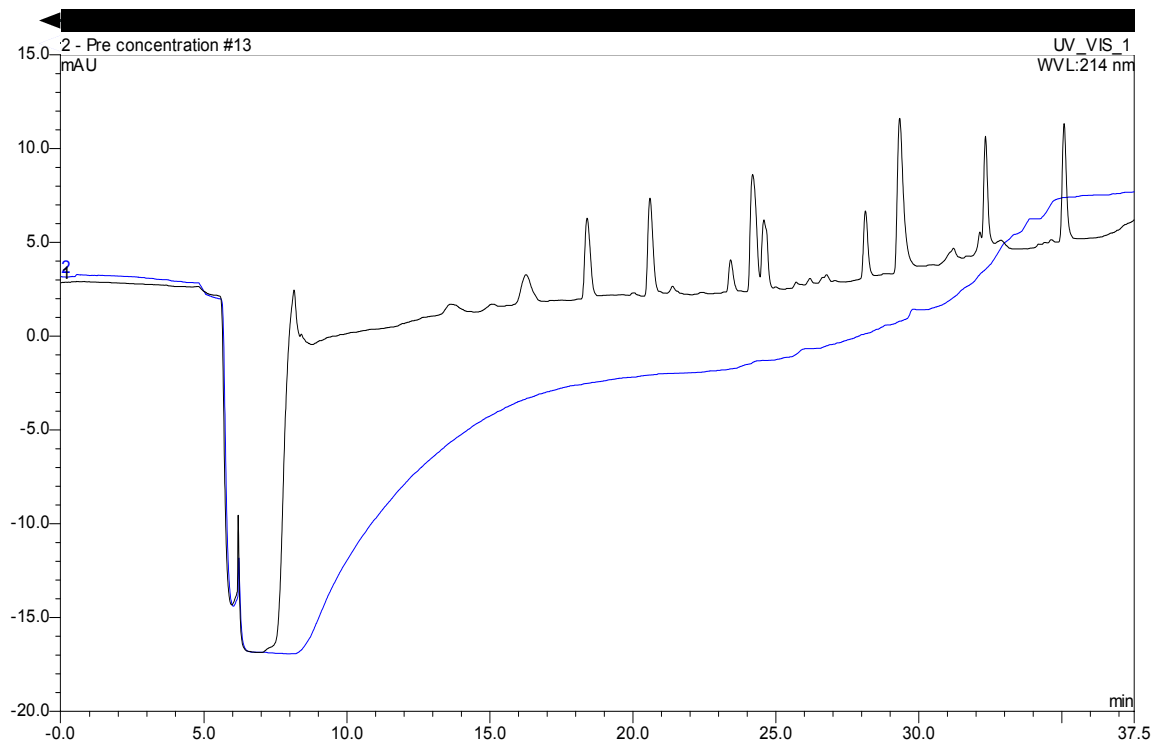

Fig. 23: Effect of Dead Volume on the Injection Profile and Separation
- The injection profile slowly returns to baseline (see Fig. 23)
Fig. 23 represents the chromatogram of a separation with zero dead volume (black line) and the effect of dead volume on the separation (blue line).